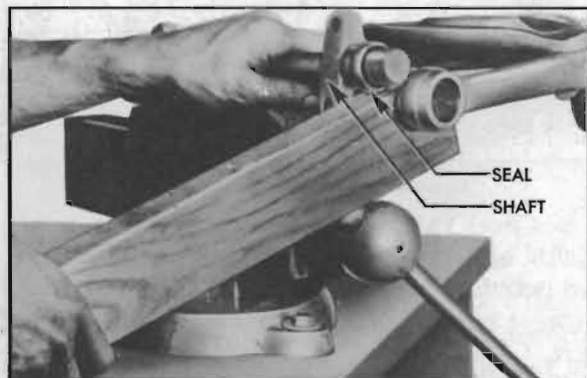

Figure 6-22—Springing Arm Over End of Shaft
5. Insert one end of shaft with the seal in place in one control arm end and force opposite end of shaft into the other control arm end. A piece of wood approximately $11\frac{1}{4}$ "x $2\frac{1}{2}$ "x 24 " long can be used as a pry. See figure 6-22.